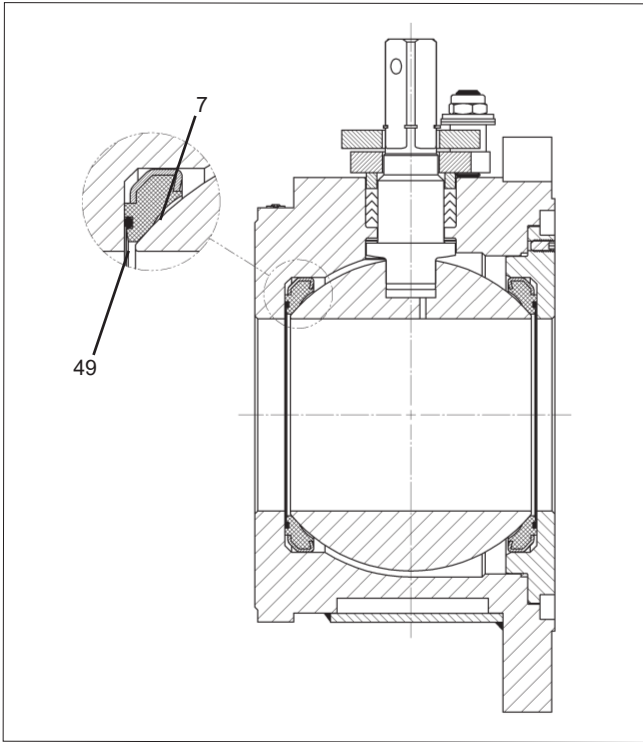

Figure 6. Proper Seat Placements
1. Place O-ring (49) in the groove on the back of the seat (7). A small amount of lubricant, compatible with the commodity in the tank car, applied to the O-ring will help hold the O-ring in the groove during assembly.
3. Slide the first seat (7) with O-ring (49) into the body (1) below the stem opening and tilt it into place so that the proper face will come in contact with the ball (3), (see **Figure 6**).